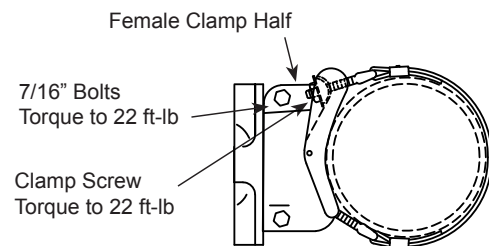

Figure 3
12. Plumb and level the bracket and torque (1) 7/16" clamp screw nut to 22 ft-lb. DO NOT OVERTIGHTEN. (Figure 3)
13. Torque the (2) 7/16" bolts on female half of clamp kit to 22 ft-lb. DO NOT OVERTIGHTEN. (Figure 3)
14. Torque the remaining 7/16" clamp screw nut to 22 ft-lb. DO NOT OVERTIGHTEN. (Figure 3)